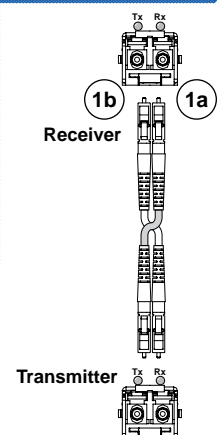

Figure 3. Two Way Configuration
- **One-way (transmitter Tx to receiver Rx) only** — Connect fiber cable ①a from the transmitter Tx connector **only**.
- **Two-way (transmitter to receiver and return)** — Connect fiber cable ①a from the transmitter Tx connector and fiber cable ①b back to the transmitter Rx connector (see figure 3).
Normal configuration — For all one-way return serial communications from the receiver to the Rx connector on a compatible transmitter (see figure 3).